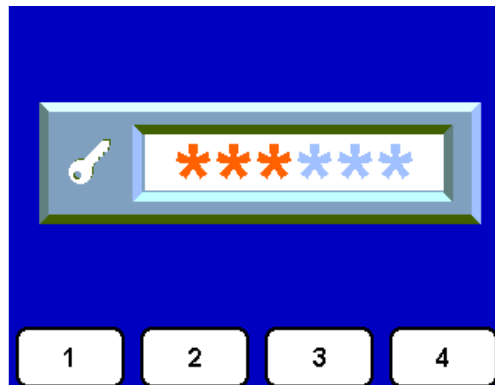

FIG 8
2. Press (2) for pass code screen Fig 8.